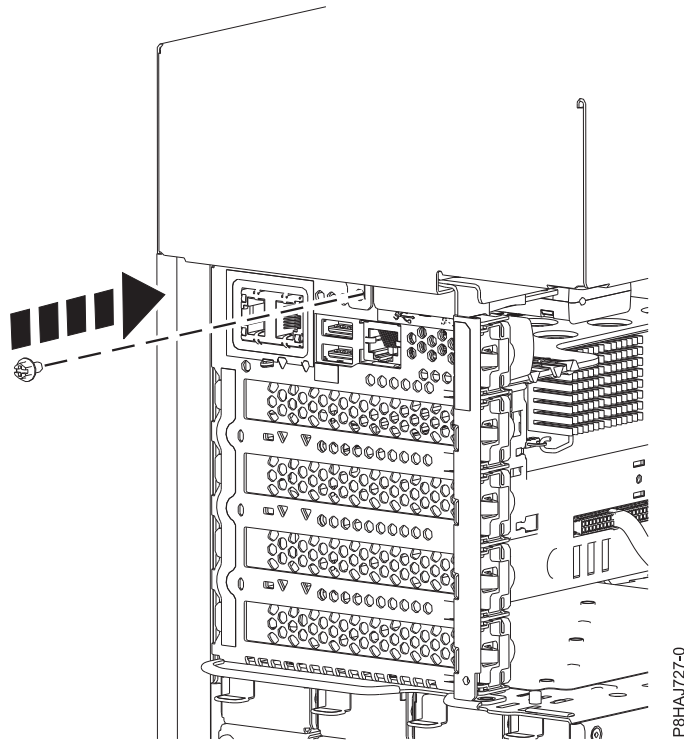

Figure 39. Installing the 8286-41A side cover screw
- 5. Install the side cover rear screw with a Phillips screwdriver as shown in Figure 39 on page 53.